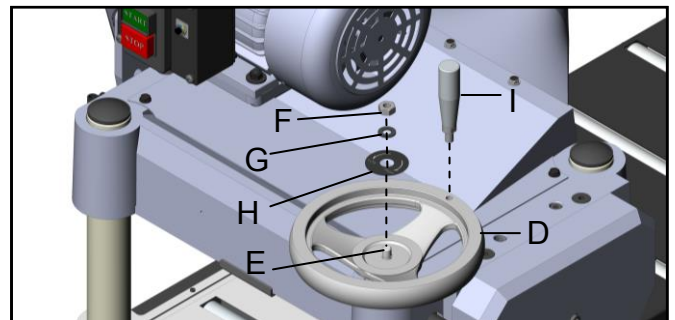

Fig. 4
1. Installed the handwheel (D) onto the top of elevation screw (E) , Fig. 4
2. Put the instruction label , flat washer on the top of handwheel then using the Hex. Nut (F) to lock the handwheel.
3. Installed the handle (I) on the handwheel
5. Raise the cutterhead by handwheel handle (I, Fig. 4) so that you can get a clear view and work comfortably when making adjustment.